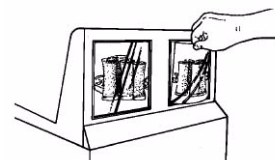

FIGURE 6
- A. Bend or pinch any existing artwork in the middle of the back-lit merchandiser and pull it from the rear merchandising display casing (see Figure 6).